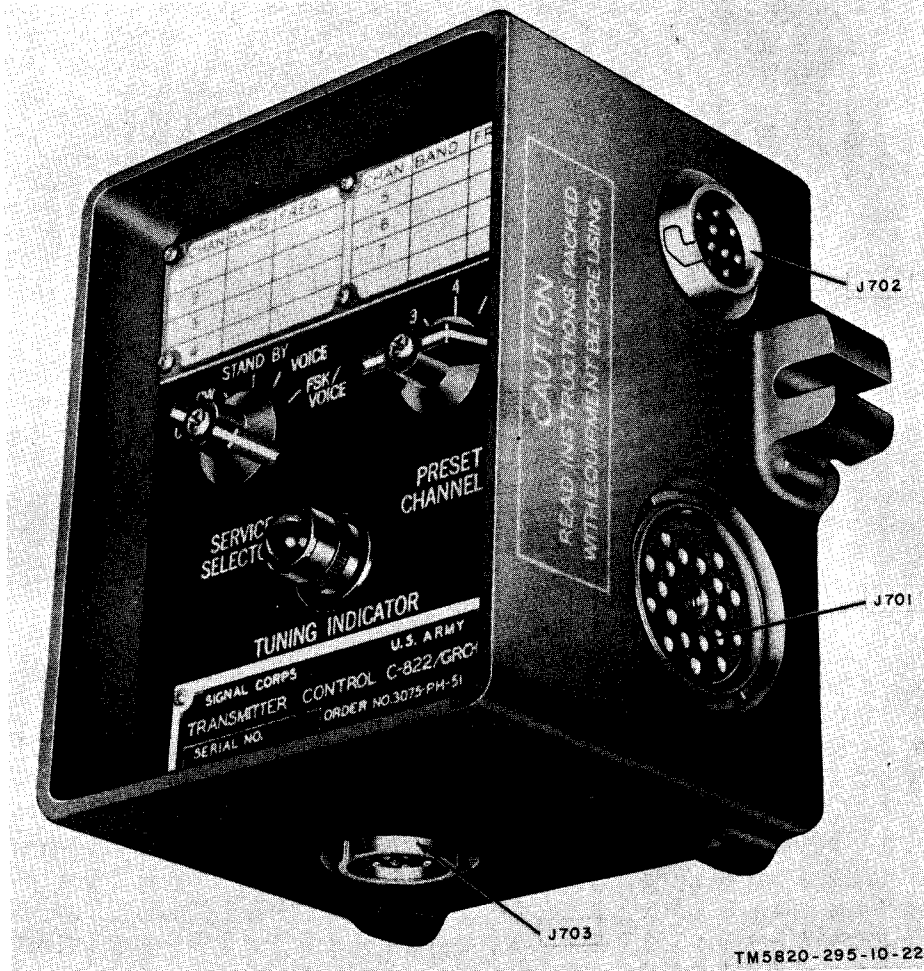
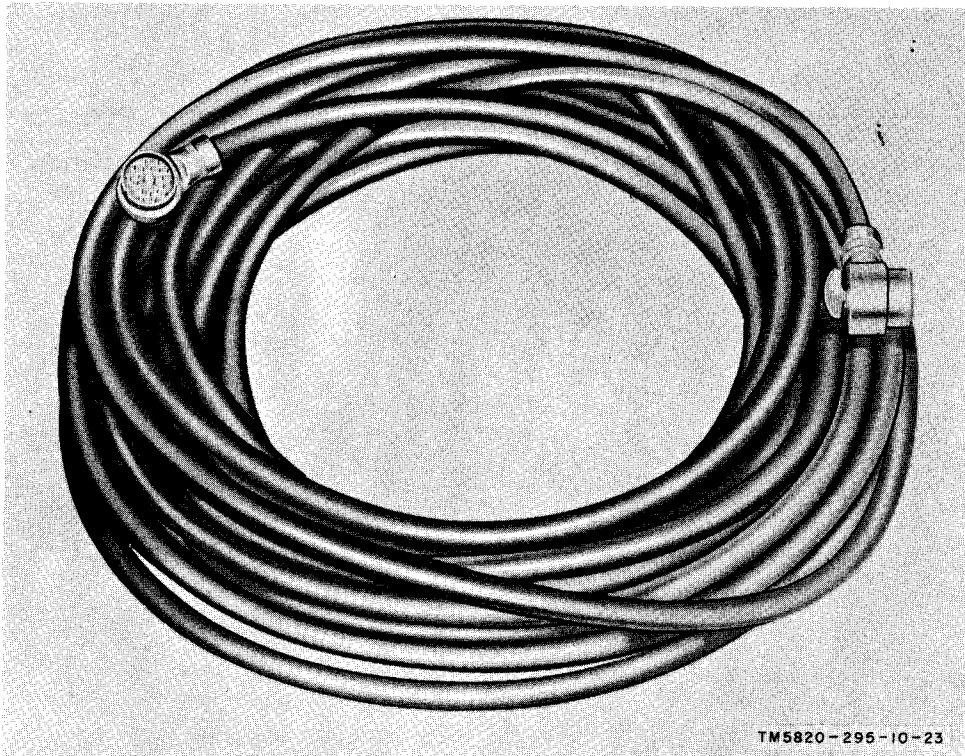

Figure 24. Transmitter Control C-822/GRC-19.
Figure 25. Cable Assembly, Special Purpose, Electrical CX-2585/U.
a. Although it is possible to operate Radio Set AN/GRC-19 locally, it may be necessary to install the radio set at one location and to control the operation of Transmitter, Radio T-195 (\*)/GRC-19 from a more protected and remote location. Transmitter Control C-822/GRC-19 (fig. 24) together with Cable Assembly, Special Purpose, Electrical CX-2585/U (fig. 25) may be used for such remote-control operation.
For REMOTE operation, one end of Cable Assembly, Special Purpose, Electrical CX-2585/U (auxiliary equipment) must be connected to the transmitter REMOTE CONT connector and the other end to connector J701 of Transmitter Control C-822/GRC-19 (auxiliary equipment) (fig. 24). These connections are to be performed only after performing initial operation of the receiver and transmitter as